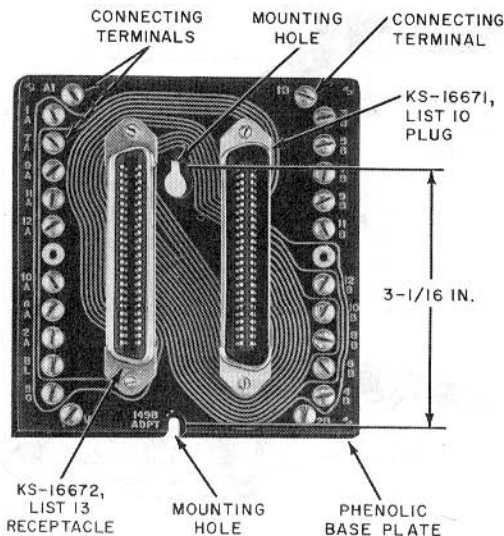

Fig. 7—149B Adapter, Printed Wiring Board Assembly
- Is similar to the 149A (MD) adapter except that wiring has been replaced by printed wiring, and the receptacle and plug are mounted on the face of the printed wiring board assembly (Fig. 7).